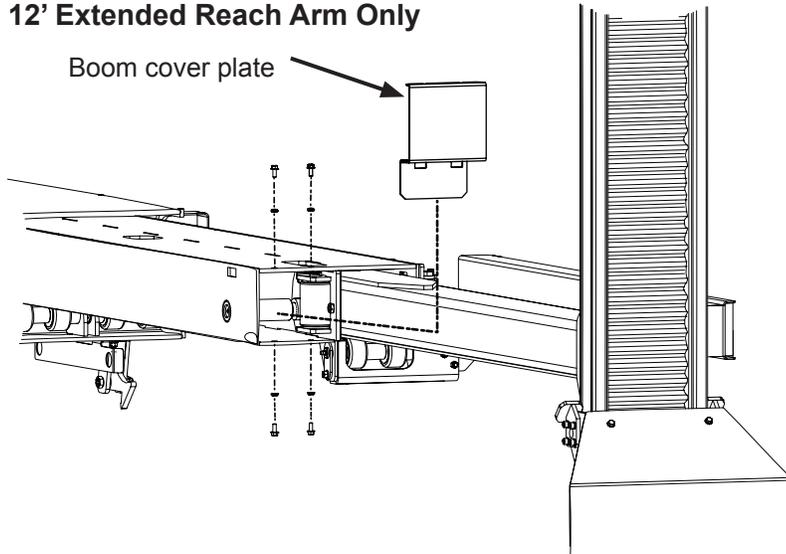

Figure 3: Location of and removal procedure of the boom cover plate.
8. **ZR 12' Reach ONLY:** If you have a 12' extended reach arm, remove and retain the (four) bolts securing the boom cover plate onto the boom (Figure 3).
9. Remove and retain the cover (Figure 3). The cover needs to be cut down to allow the chain to reach.